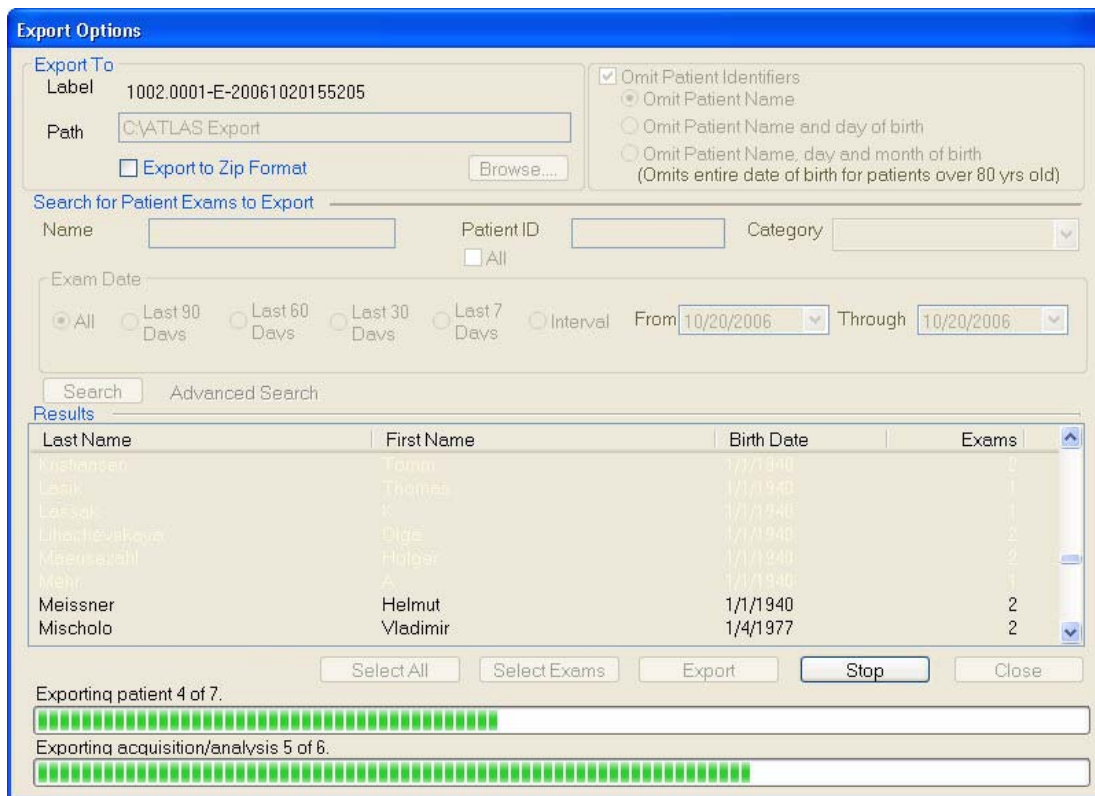

Figure 11-24 Export Options Dialog During Export
8. When you have made your selections, click **Export** to begin the export process. A Progress dialog appears on the bottom of the Export Options dialog (Figure 11-24).